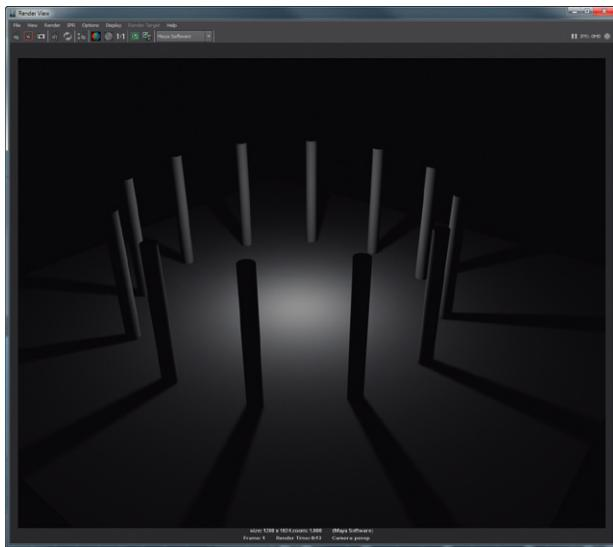

FIG 7.9 Render with Point Light using an Intensity of 5 with a Decay Rate of Linear.
Step 8: Change the Point Light’s Intensity to 5. This is still within the Attribute Editor, in the Point Light Attribute area. Render (Fig. 7.9).